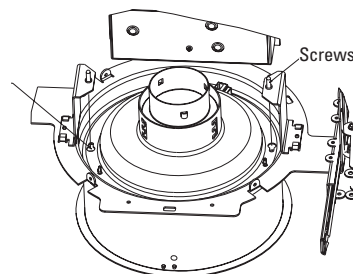

Figure 4
7. Push reflector through mounting frame opening and align key hole slots with screws. (WARNING: Key hole slots are located behind LED board. When aligning screws, be careful not to damage board) (see Figure 4).